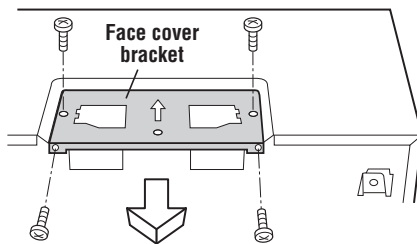

Figure 13
1. Remove and save the 4 screws from the Fan Cover Bracket. Remove Fan Cover Bracket by sliding it in the opposite direction of the arrow on the Fan. Cover Bracket as shown in Figure 13.